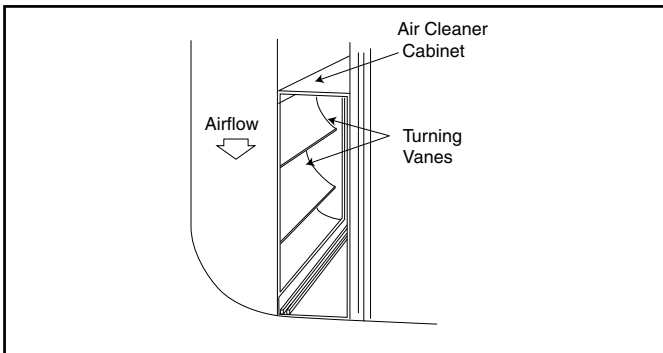

Figure 9 Turning Vanes
7. It is recommended that sheet metal turning vanes be installed inside an elbow on ductwork attached to the entering airstream side of the air cleaner. This improves the air distribution over the COLLECTION CELLS. See Figure 9.
**NOTE:** It is recommended that sheet metal turning vanes be installed inside an elbow on ductwork attached to the entering airstream side of the air cleaner. See Figure 9 on Page 4.